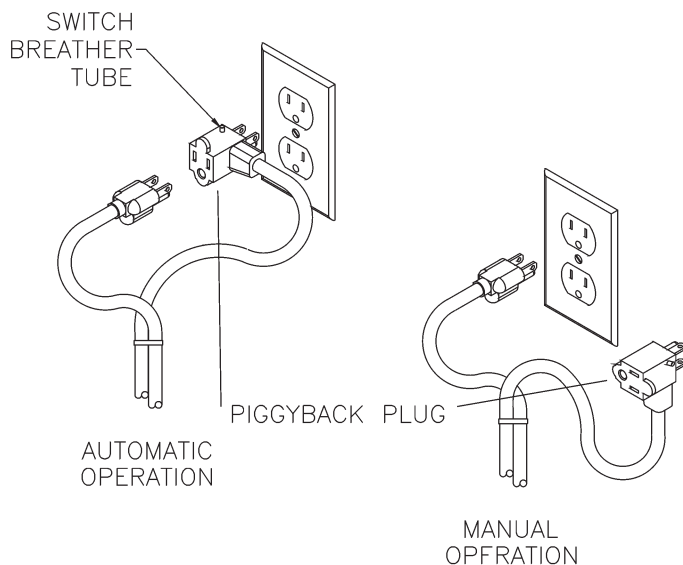

FIG. 1
1. Your pump is supplied with a 3-prong electrical plug. The diaphragm switch on APCP models is supplied with a 3-prong piggyback plug/receptacle on the cord. The third prong is to ground the pump to prevent possible electrical shock hazard. Do not remove the third prong from the plugs. For automatic operation, plug pump plug into piggyback receptacle, then plug piggyback plug into properly grounded outlet. For manual operation, plug pump plug directly into properly grounded outlet. These connections are illustrated in Fig. 1.
4. Switch cord contains a small white breather tube which extends out of switch plug (see Fig. 1). Be sure switch cord is not pinched and non-restrictive air flow can occur in breather tube. Do not allow water to enter into breather tube. Non-restricted air flow is required for proper switch operation.
Sediment lodged between retainer ring and rubber diaphragm causing contacts to remain closed.	Clean area around rubber diaphragm. See Figure 1
Pump plugged directly into outlet.	Operate pump manually (see figure 1). Replace switch if necessary. Disconnect switch, check w/ohmmeter. Open-infinite resistance, closed-zero. With no water present switch should be open. Replace switch.